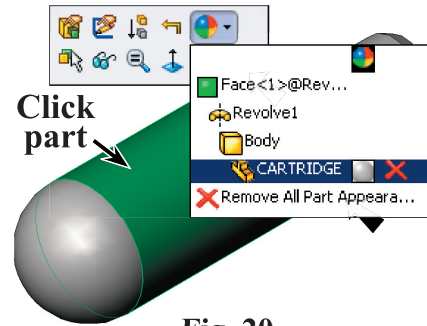

Fig. 20
- Step 1. Click the part, expand **Appearance Callout**  on the Content menu and click **CARTRIDGE** , Fig. 20.